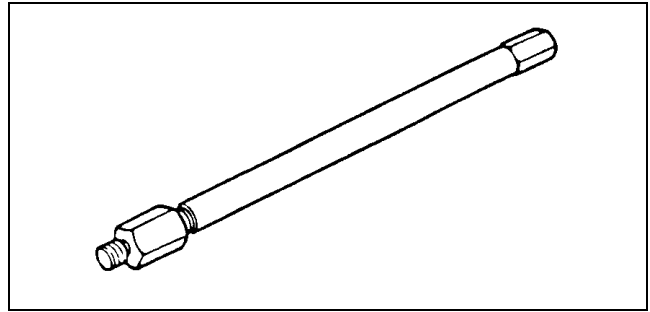

Figure 24
- TOR80504A1 Extension (Fig. 24)
- TOR80110GY Extension Rod Adapter (Fig. 24)